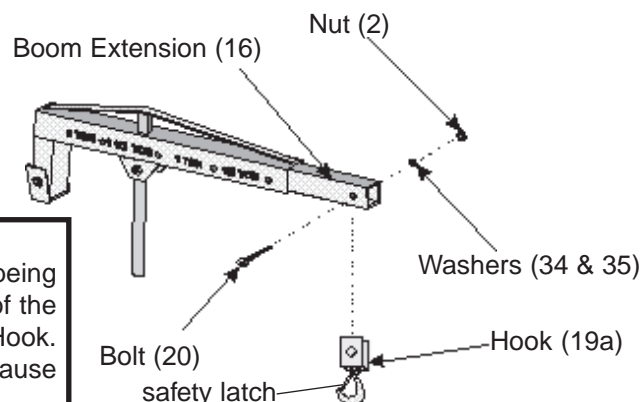

Figure 6-Attaching the Hook
Step 10) Attach the Hook (19a) around the end of the Boom Extension (16) using Bolt (20). Insert Bolt (20) through one side of the Hook, through the Boom Extension (16), and out the other side of the Hook (19a). Slide on Washer (34) and Spring Washer (35). Tighten in place with Nut (2) - see Figure 6.